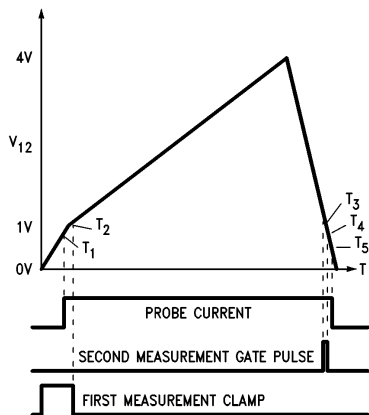

FIGURE 5
**Note 6:** Probe 1 amplifier tests are measured with pin 12 ramp voltage held between the  $T_3$  and  $T_4$  conditions (pin 12  $\approx 1.1V$ ) having previously been held above 4.1V to simulate ramp action. See Figure 5.
These probes require measurements to be made of their resistance before and after power has been dissipated in them. With a probe connected as probe 1 in the connection diagram the LM1042 will start a measurement when pin 8 is taken to a logic low level ( $V_B < 0.5V$ ) and the internal time-base ramp generator will start to generate the waveform shown in *Figure 5*. At  $0.7V$ ,  $T_1$ , the probe current drive is switched on supplying a constant  $200\text{ mA}$  via the external PNP transistor and the probe failure circuit is enabled. At  $1V$  pin 1 is unclamped and  $C_T$  stores the probe voltage corresponding to this time,  $T_2$ . The ramp charge rate is now reduced as  $C_T$  charges toward  $4V$ . As the  $4.1V$  threshold is passed a current sink is enabled and  $C_T$  now discharges. Between  $1.3V$  and  $1.0V$ ,  $T_3$  and  $T_4$ , the amplified pin 1 voltage, representing the change in probe voltage since  $T_2$  (and as the current is constant this is proportional to the resistance change) is gated onto the memory capacitor at pin 14. At  $0.7V$ ,  $T_5$ , the probe current is switched off and the measurement cycle is complete. In the event of a faulty probe being detected the memory capacitor is connected to the regulated supply during the gate period. The device leakage at pin 14 is a maximum of  $2\text{ nA}$  to give a long memory retention time. The voltage present on pin 14 is amplified by  $1.2$  to drive pin 16 with a low impedance,  $\pm 10\text{ mA}$  capability, between  $0.5V$  and  $4.7V$ . A new measurement can only be started by taking pin 8 to a low level again or by means of the repeat oscillator.